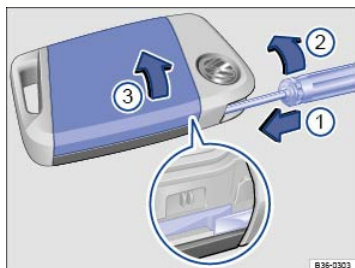

Fig. 55 Remote control vehicle key: Opening the battery compartment cover.
Key to ⇒ Fig. 55 :
The battery is on the back of the remote control vehicle key under a cover ⇒ Fig. 55①.
- Turn the screwdriver in the direction of the arrow until the cover opens ⇒ Fig. 55②.
- Push the cover in the direction of the arrow ⇒ Fig. 55③ and remove ⇒ ①.